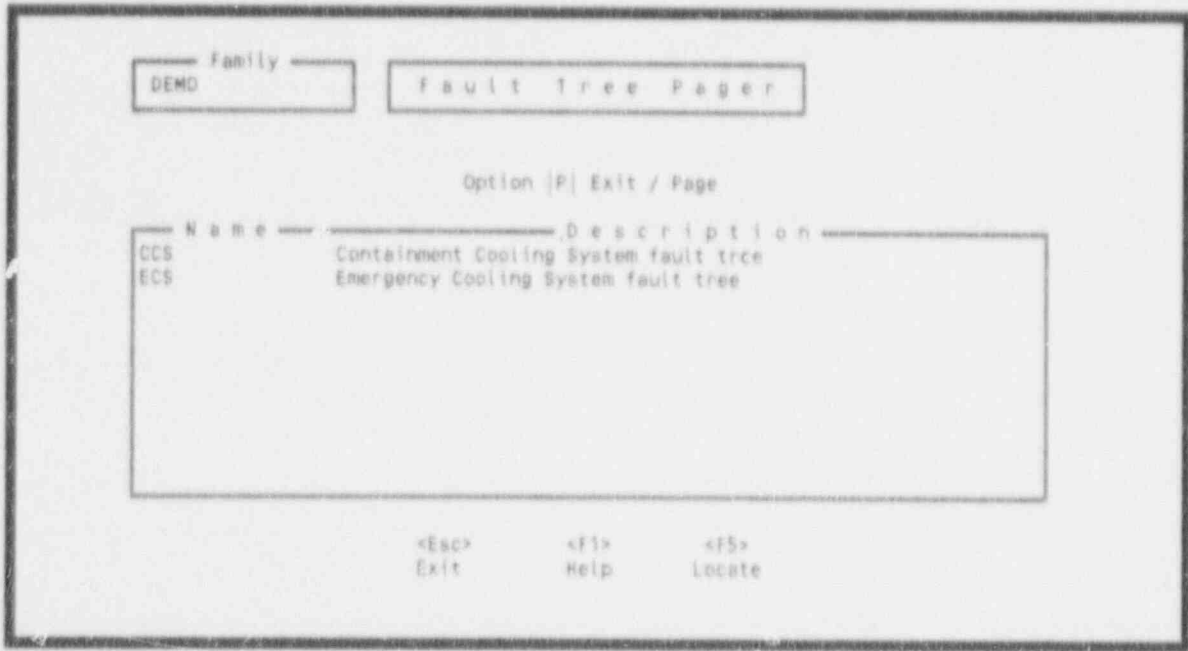

Figure 58. Fault tree pager menu.
This option allows you to break up larger drawings into many pages or smaller drawings. When you invoke this option, Figure 58 is displayed. Each menu option is discussed in the following paragraphs.
5.5.2.2 <E>. This option returns you to the previous screen (Figure 58). To invoke this option, enter an <E> in the option field and press <Enter>, or press the <Esc> key.